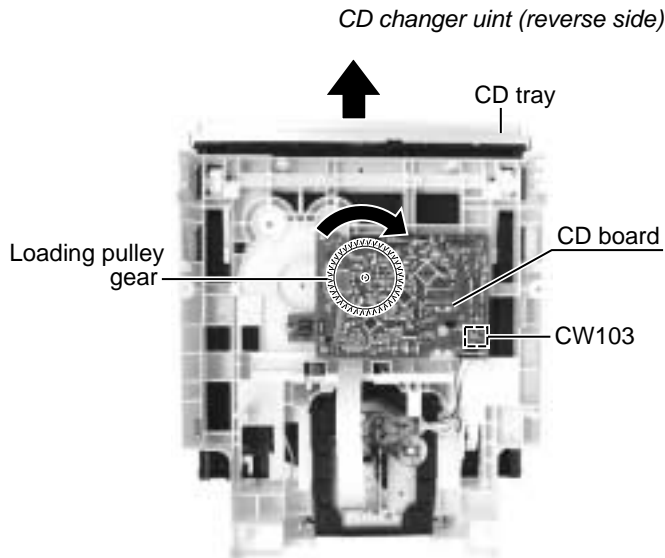

Fig.1
■Removing the CD tray (See Fig.1 and 2)